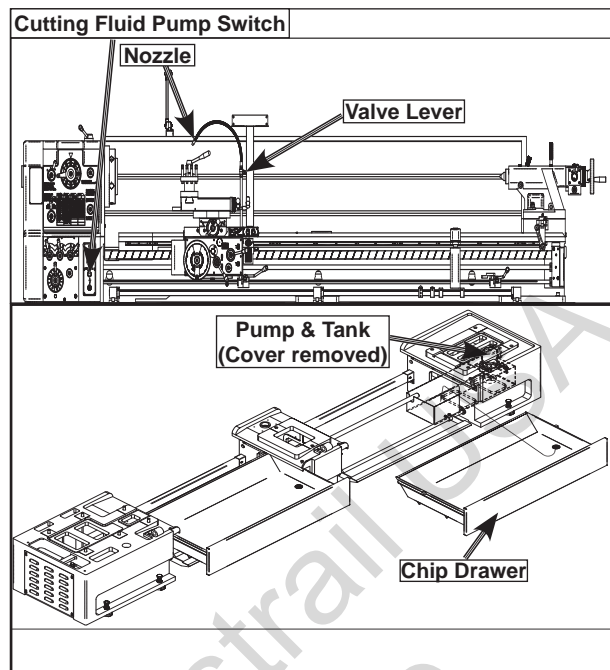

Figure 82. Cutting fluid system components and locations.
The cutting fluid system consists of a fluid tank, pump, and flexible nozzle. The pump pulls fluid from the tank and sends it to the valve, which controls the flow of cutting fluid to the work area. When the valve is opened or closed, the fluid comes out of the nozzle and drains through the chip drawer and into the catch tray and then into the tank where it is picked up again by the pump. Figure 82 shows many of these components and their locations.
5. Remove the vented cover and slide the tank half way out of the base, as shown in Figure 82.
If necessary, disconnect the fluid hose from the pump, where shown in Figure 82.